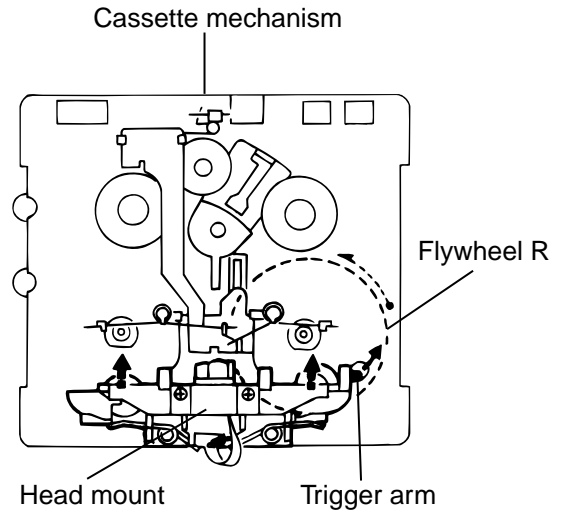

Fig. 1
■ Removing the Playback/Recording & Eraser Head ( See Figs. 1 and 2 )
1. While shifting the trigger arms seen on the right side of the head mount in the arrow direction, turn the flywheel R in counterclockwise direction until the head mount has gone out with a click (See Fig. 1).